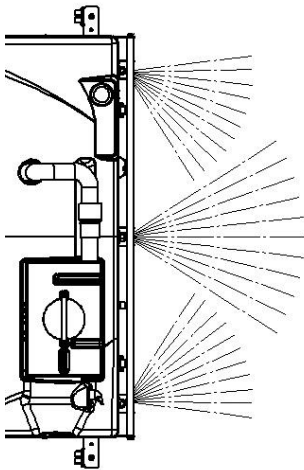

Figure 3- 1
1. The spray heads dispense the cleaner over the lane, as shown in Figure 3- 1.